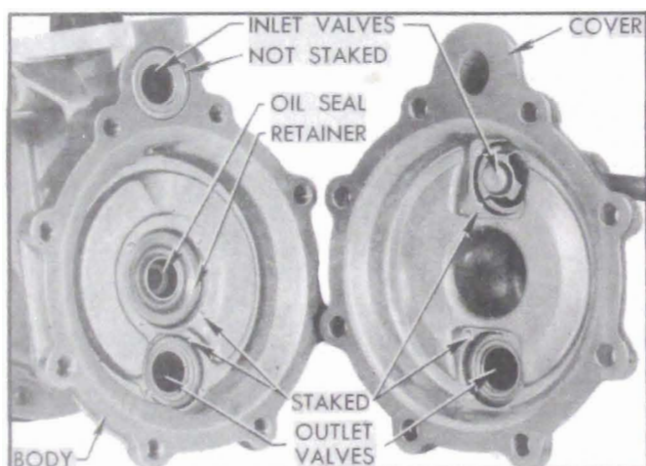

Figure 3-16—Vacuum Valves and Pull Rod Seal
4. Cut off the burrs produced by staking, then remove all valves from cover and body by prying out with a screwdriver or hook-shaped tool. The valve adjacent to body mounting flange is not staked in place. See figure 3-16.
3. Inspect the rubber pull rod oil seals in pump body. See figure 3-16. If damaged or of doubtful condition, pry out the metal retainer and discard the rubber seal. Place new seal in
2. Place a *new* valve gasket in each valve seat in vacuum cover. Place one valve in seat nearest inlet port with the spring cage side facing up. Place another valve in the outlet valve seat with the spring cage side down. Press valves down firmly against gaskets, then stake cover metal in four places around each valve. See figure 3-16.
3. Install gasket and valve, with spring cage side down, in seat farthest from mounting flange in pump body, then stake in place. See figure 3-16. Do not install the inlet valve adjacent to mounting flange at this time.
6. Depress rocker arm and insert hooked end of Diaphragm Flexing Tool No. PT-8 (AC) between rocker arm and the stop boss in body, then release rocker arm. The vacuum diaphragm will then be in a flat or level position.